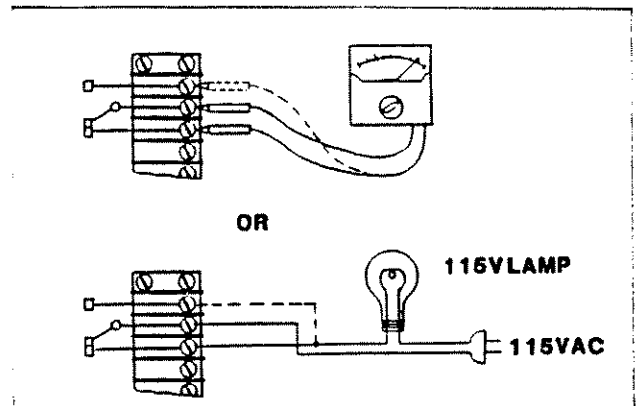

Fig.5-4
B. Relay operation may be heard as an audible click when the background noise is not too high. Use one of the methods shown in Figure 5-4 to determine if the relay contacts are switching.